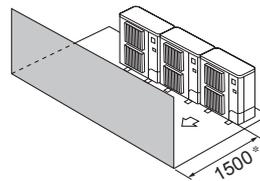

Fig. 2-11
- ③ Ostacoli anteriori (Fig. 2-11)